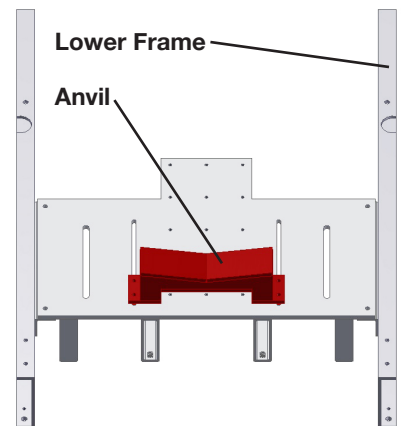

Figure 3
3. Place the Anvil onto the table so that the 11/16” holes are aligned with the inner set of slots on the table. Set the Anvil so that it will support the tube sheet at the desired cut off distance for the bundle cut (Figure 3). Using the 130GN Hex Bolts, 132H Washers included in the box labeled “Anvil Hardware”, secure the Anvil by bolting through the slots in the Tube Sheet Support Table and into the Anvil Nuts. This position can be adjusted at any time before or after a bundle cut.